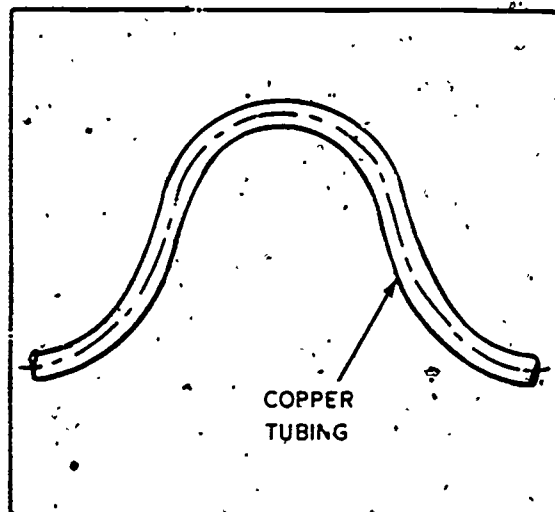

Figure 1-24. Expansion loop.
**Expansion loop.** When copper tubing is used to fabricate the water supply, an expansion loop, shown in figure 1-24, should be formed in the line near the connection to the corporation stop—this to be used instead of the copper or lead connectors or swing joints. Be careful to insure that no part of the expansion loop will be above the frostline after the trench is backfilled.